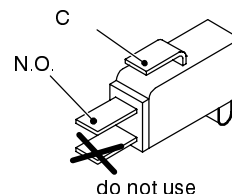

Fig. 52
- 2 Measure the electrical resistance between the tabs marked C. and N.O. (Fig. 52). The contact must be normally open.
- 4 Re-assemble the parts in reverse order of removal. Refer to Fig. 52 for the correct wiring connectors on the switch